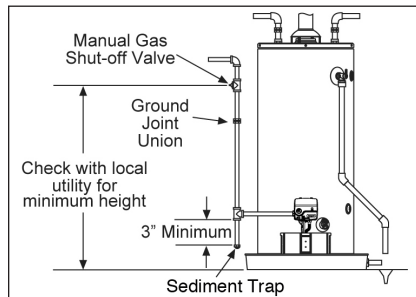

Figure 10 - Gas Piping
2. Install a Sediment Trap as shown in Figure 10 (Gas Piping). The Sediment Trap must be no less than three inches long for the accumulation of dirt, foreign material, and water droplets.